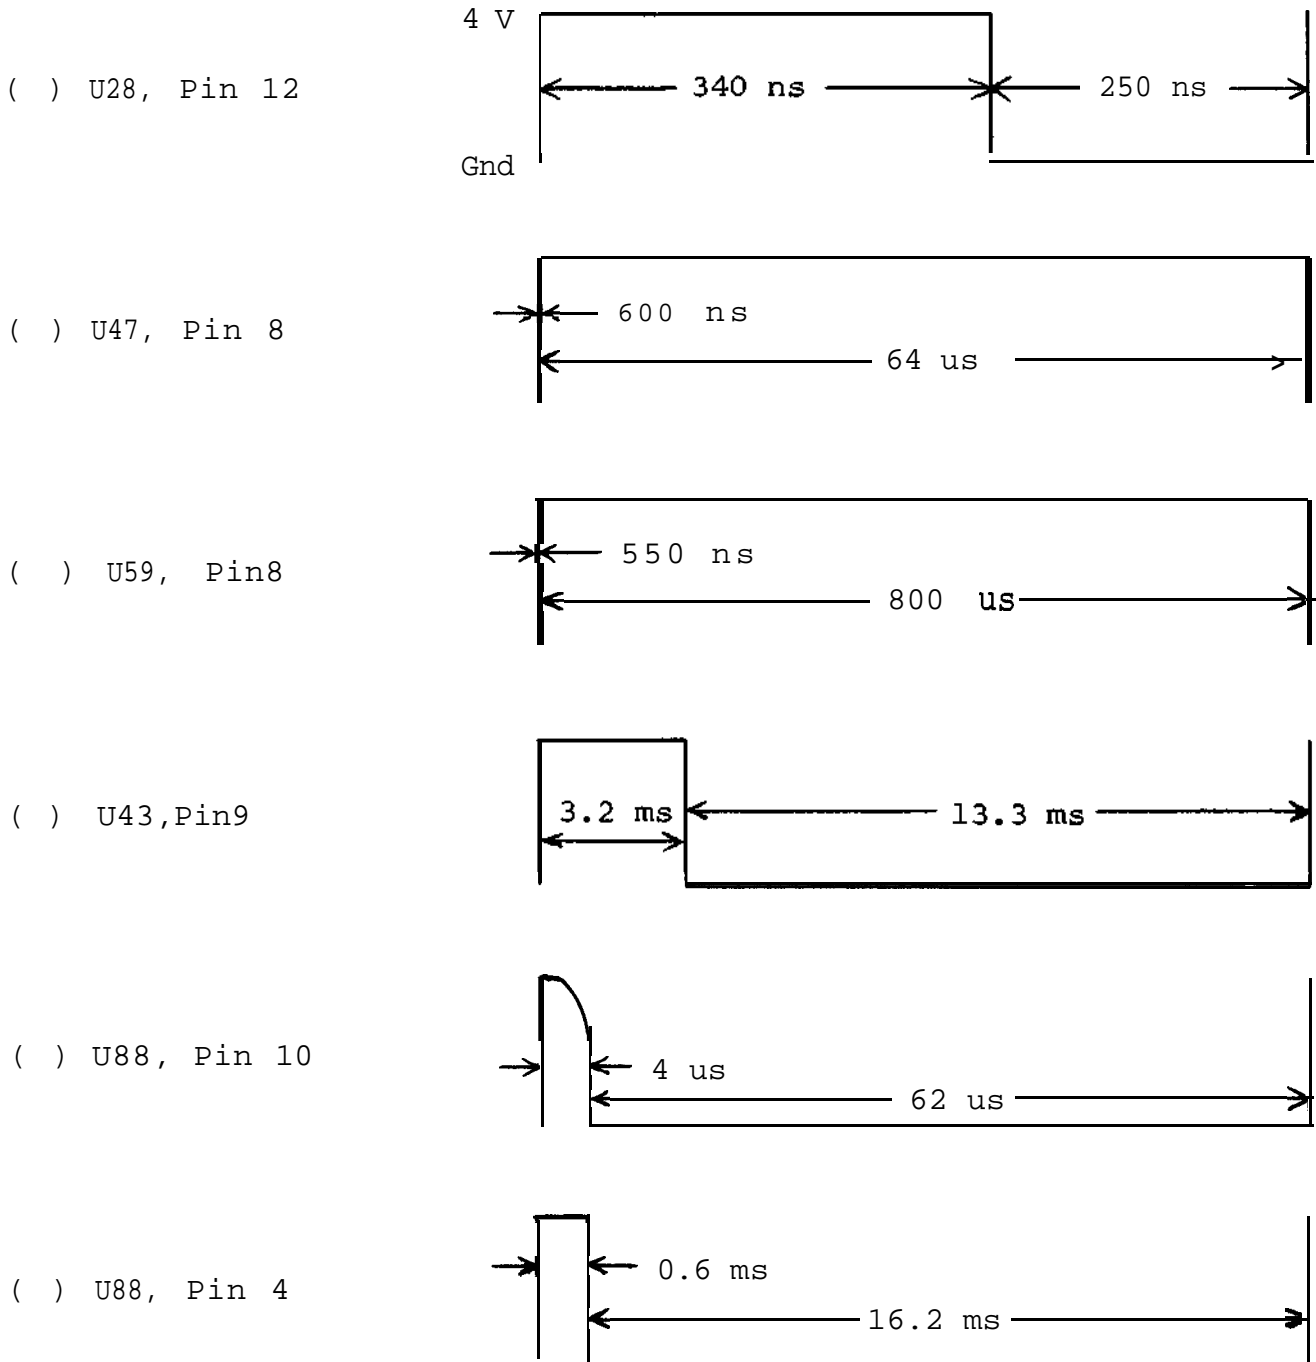

Figure 3-5. Display section timing waveforms.
- () Using an oscilloscope, check for the waveforms given in Figure 3-5 at the indicated observation points and in the order given. The waveforms shown in Figure 3-5 approximate actual waveforms. If any waveforms are incorrect, determine and correct the cause before proceeding with assembly.